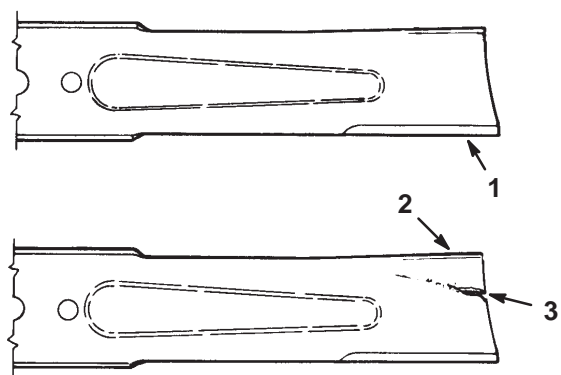

Figure 46
1. Inspect the cutting edges (Fig. 46). If the edges are not sharp or have nicks, remove and sharpen the blades. Refer to Sharpening the Blades on page 36.
2. Inspect the blades, especially the curved area (Fig. 46). If you notice any damage, wear, or a slot forming in this area (item 3 in Fig. 46), immediately install a new blade.